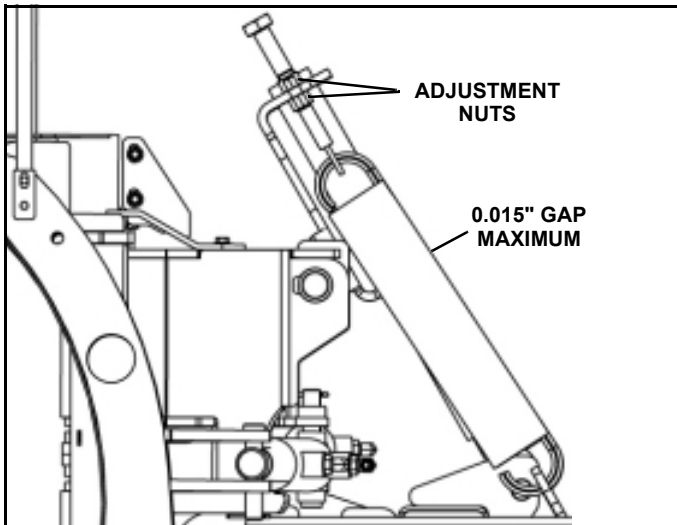

Figure 2-9
2. Check gap on springs with a feeler gauge. The gap between the coils should be no greater than 0.015 to 0.020 inches (See Figure 2-9).